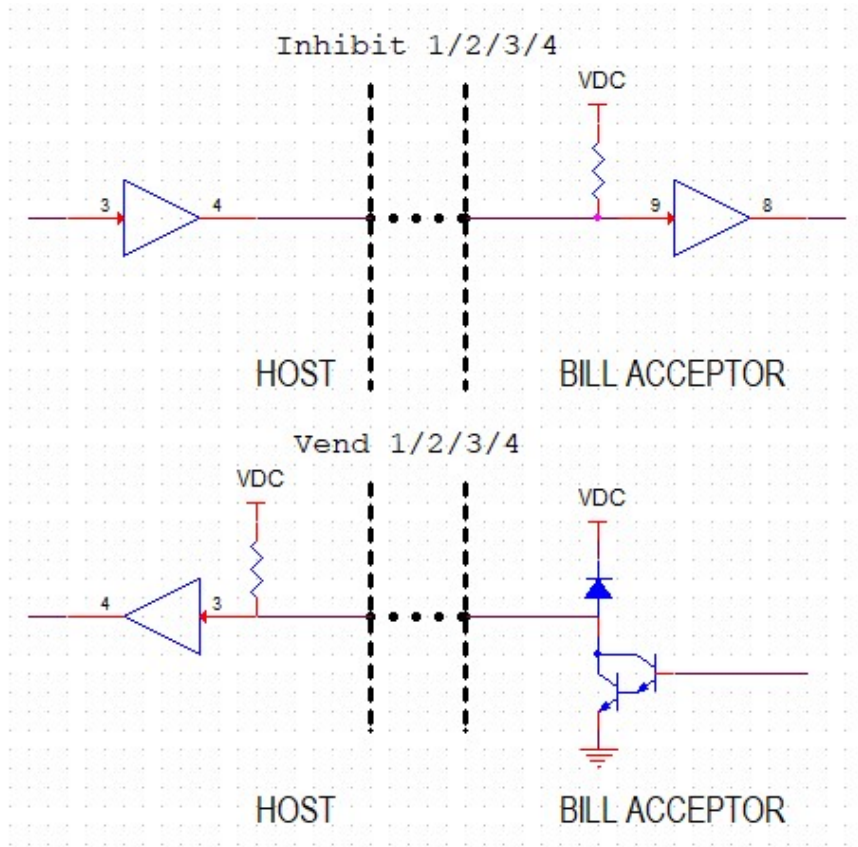

Figure 1.
(4) Pulse Interface connection, See figure 1、2.